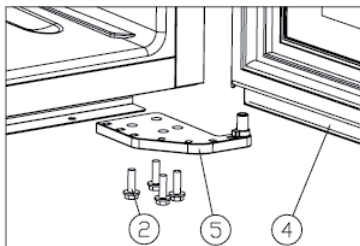

Figure 2
3. Unscrew the M5 x 16 screws (2) and dismantle the right lower hinge (5) (see figure 2).